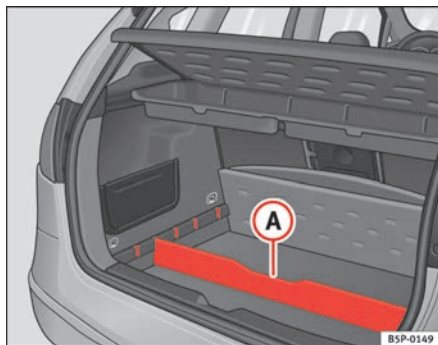

Fig. 106 Luggage compartment divider
- Fit the separator **A** ⇒ fig. 106, into the side grooves depending on the size of the objects to be transported. The onboard tool kit and the spare wheel are located underneath the luggage compartment.